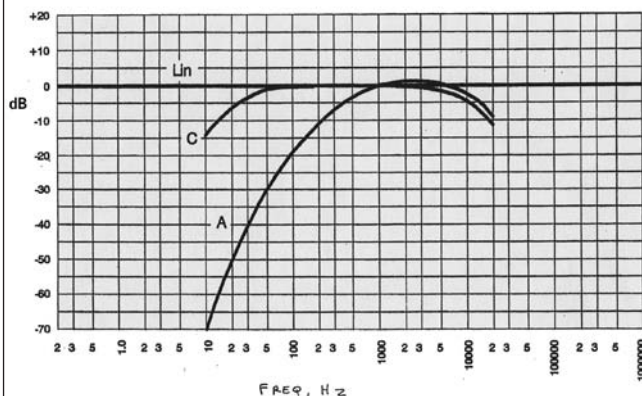

FIGURE 6: "A" and "C" weighting curves.
3. The "A" weighting curve (for low-level sounds) further emphasizes (perceptually) the mid-treble range; the "A" curve peaks at 2.5kHz, like your low-level hearing (**Fig. 6**).
1. The "raw" ($nV/\sqrt{Hz}$) spectrum in **Fig. 3** curve 1 has a strong LF rise below 1kHz. With the log frequency scale, this appears to affect half the spectrum. But 1kHz is only 5% of the 20kHz audio (and noise) BW. That's why the audio band averaged noise density is only $1.045nV/\sqrt{Hz}$, about the level at 2kHz. The "A" curve mostly attenuates below 1kHz (**Fig. 6**), again affecting only 5% of the audio band.
2. Notice in **Fig. 6** that at the peak frequency of 2.5kHz, the "A" curve is